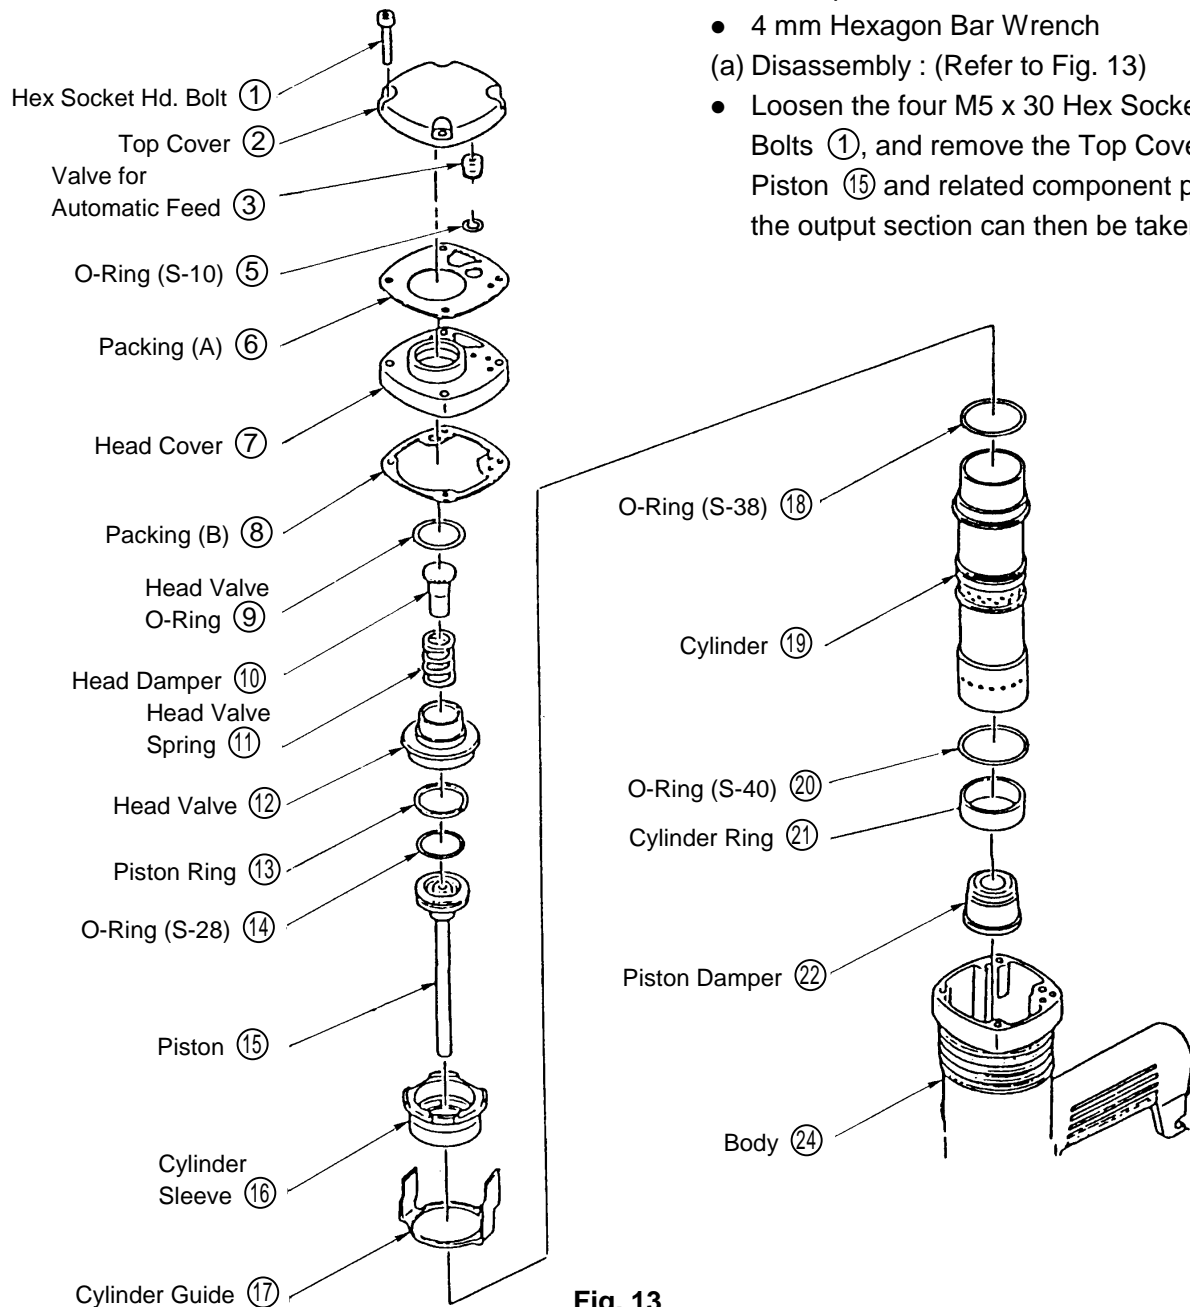

Fig. 13
- (a) Disassembly : (Refer to Fig. 13)
- Loosen the four M5 x 30 Hex Socket Hd. Bolts (1), and remove the Top Cover (2). The Piston (15) and related component parts of the output section can then be taken out.
- Be very careful to ensure that the Cylinder Guide (17) is assembled in the proper direction. (Refer to Fig. 13)